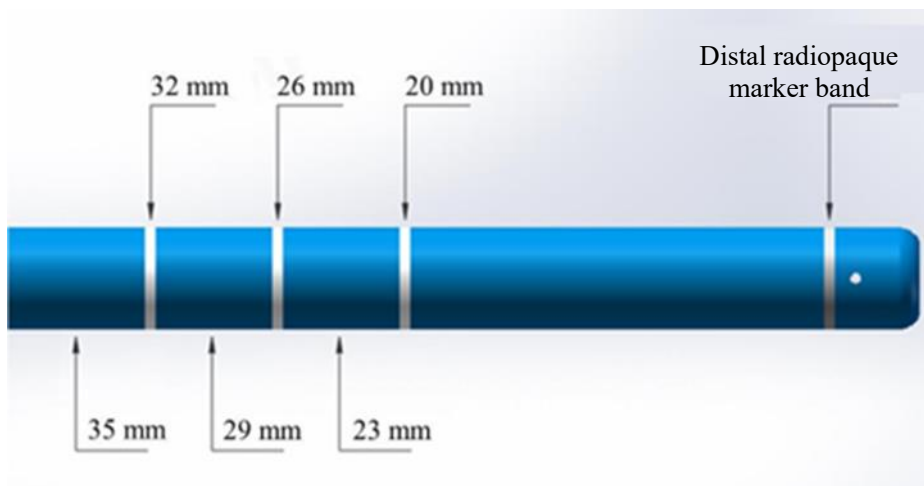

Figure 3 Radiopaque marker bands of Access Sheath
- C. Carefully advance pigtail catheter through Access Sheath into distal portion of the LAA under fluoro guidance. Carefully advance Access Sheath over pigtail catheter until Access Sheath marker band corresponding to Device size (see Figure 3) is at or just distal to LAA ostium. Slowly remove pigtail catheter.